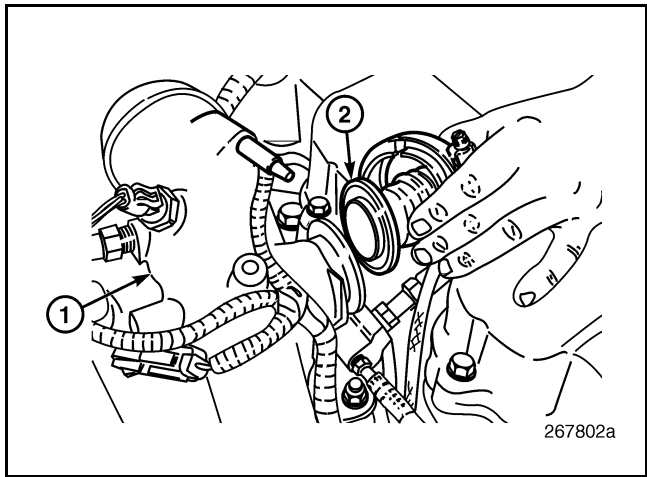

Figure 509 — EGR Tube-to-Mixer Connection
3. Loosen and remove the clamp attaching the upper EGR gas tube to the EGR gas mixer tube (Figure 509). Remove and discard the seal in the gas-tube flange.
5. With the **new** seal in place, position the upper EGR gas tube on the mixer tube flange and install the clamp (Figure 509).